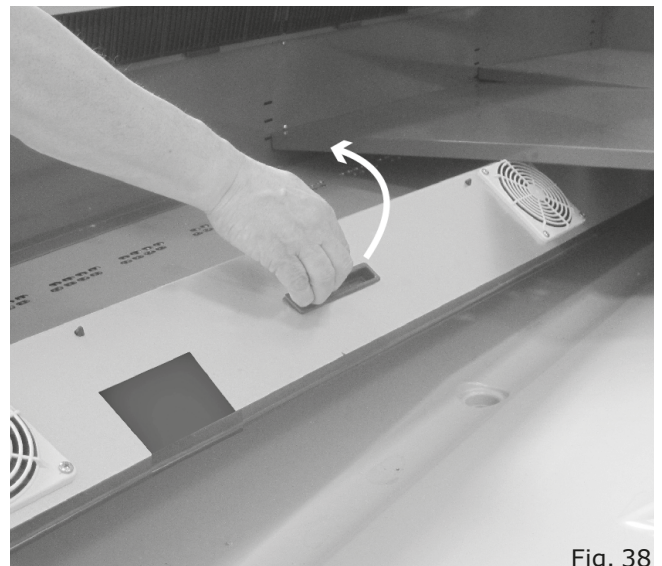

Fig. 38
- A fan holder that can be rotated upwards ("Fig. 38").